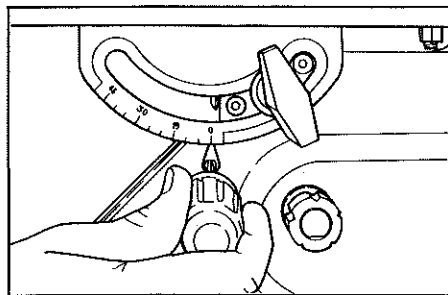

Figure 7. Set the table tilt indicator.
8. Adjust the table tilt indicator. Use a medium blade screwdriver to loosen screw (33). Set the tilt indicator (34) at "0." Tighten screw. (See Figure 7.)